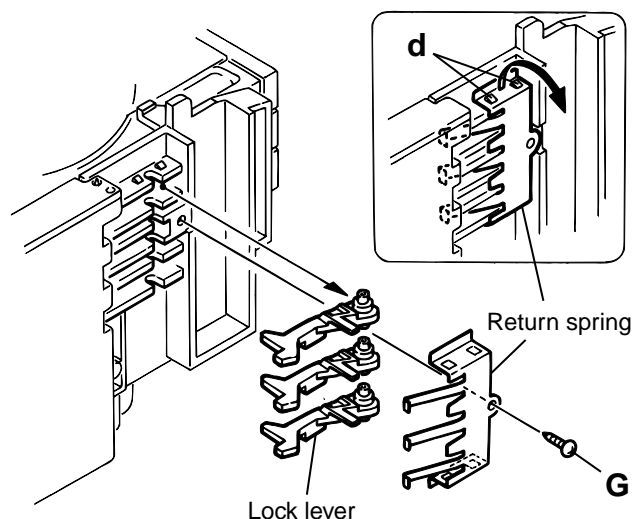

Fig.4
9. From the left side face of the chassis assembly, remove the one screw **G** retaining both of the return spring and lock lever(See Fig. 4).
10. By removing the pawl at the section "d" fixing the return spring, dismount the return spring(See Fig.4).
11. Remove the three lock levers(See Fig.4).